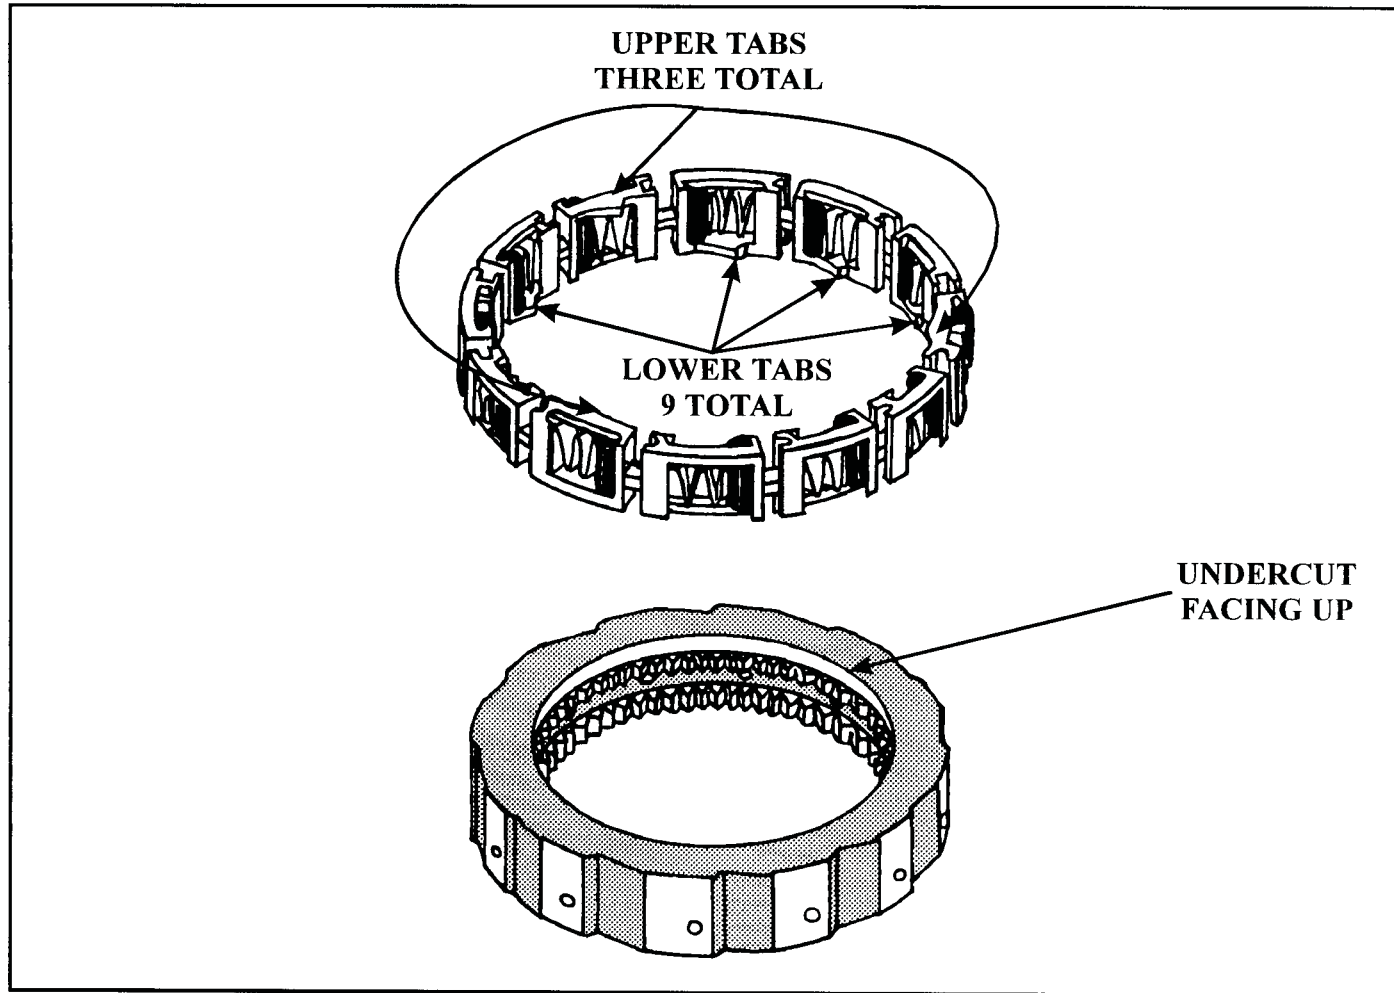

Figure 38
- (1) Place the new inner cam on a flat work surface with the "Undercut" on the inside diameter facing **up**, as shown in Figure 38.
- (2) Install the overdrive roller clutch assembly over the inner cam, **with the 9 locking tabs on the inner diameter facing down, and the three upper locking tabs facing up**, as shown in Figure 38.